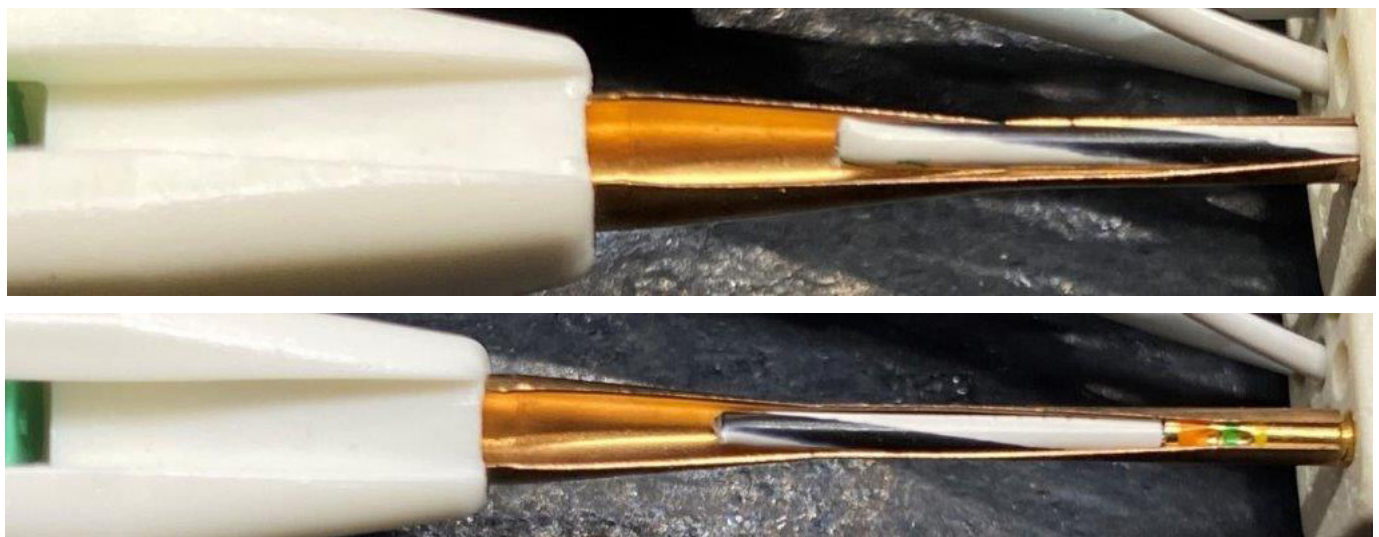

FIGURE 10 Socket extraction
20. Refer to Figure 10. Using white extraction-side of 91067-1 tool, remove and discard 4 cut wires & attached sockets (gently squeeze copper extractor or press fingertip against wire remnant to assist removal).